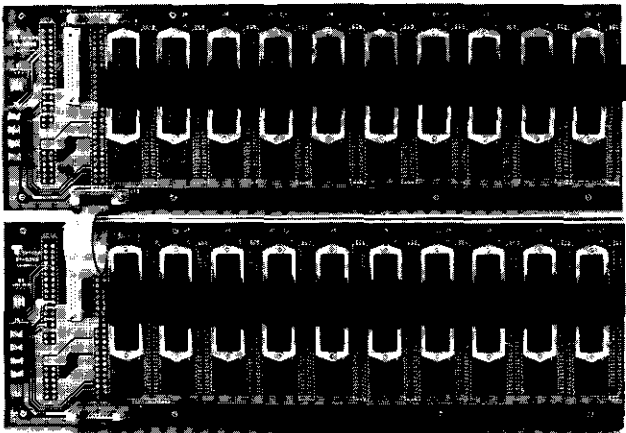

figure 2. Backplane of 345A Mounting Assembly
1.07 The standard 345A SCC System Mounting Assembly is a specially prewired Tellabs Type 10 Mounting Shelf with a connectorized printed-circuit backplane. Input/output (I/O) connections to the 345A are made via standard 50-pin Amphenol-type female connectors on the backplane of the System Mounting Assembly (see figure 2). Ten 50-pin I/O connectors, as well as one 25-pin RS-232-C connector, are provided on each assembly. When mul-